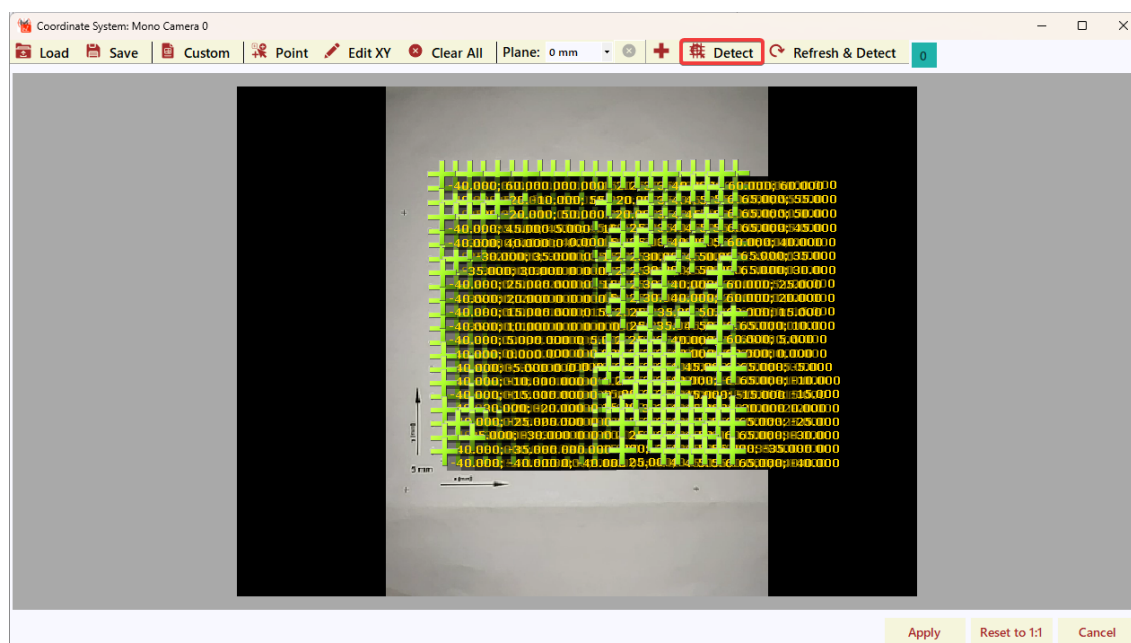

Figure 41: A calibration grid detected in the Coordinate system window
The Coordinate System window seen in Figure 41 is accessible through the **Scene Setup** panel in a mono mode and allows to detect coordinate system defined by a calibration grid or set the coordinate system using points of an image with a known location in physical units.
- ❖ **Using detection grid:** Click the Detect button if the scene displaces the calibration grid (Figure 41). The reference measuring plane (coordinate system) is set on the front plane of the calibration grid.